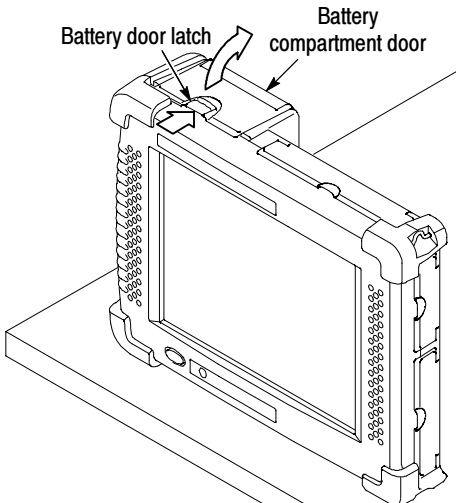

Figure 1-2: NetTek Analyzer battery compartment
1. Place the NetTek Analyzer on a flat surface with the touch-screen display facing towards you and the battery compartment door facing up. See Figure 1-2.